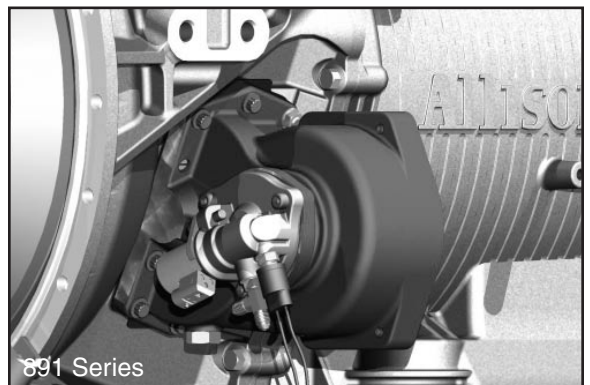

Fig. 10
10. Install the remaining capscrews and nut. Torque all to 40 - 50 Lbs. ft. (54 - 68 N.m. or 5.5 - 6.9 Kg.m) (**Fig. 10**).